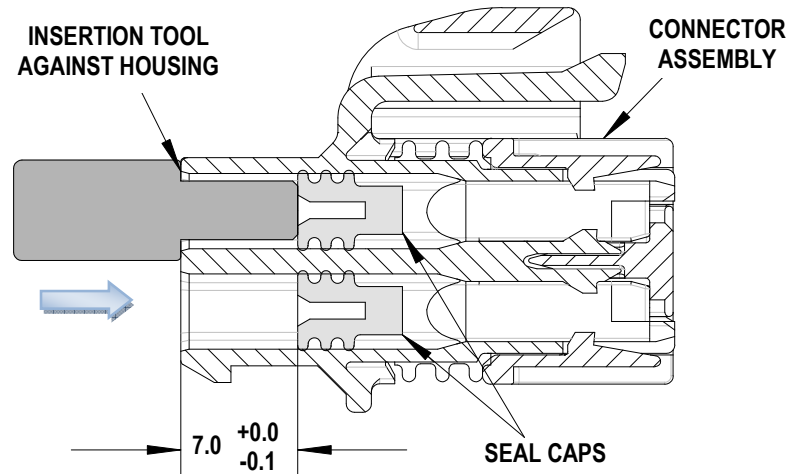

Figure 2
3. The seal should be inserted approximately 7.0 +0/-0.1mm from the opening in the module. See Figure 2.